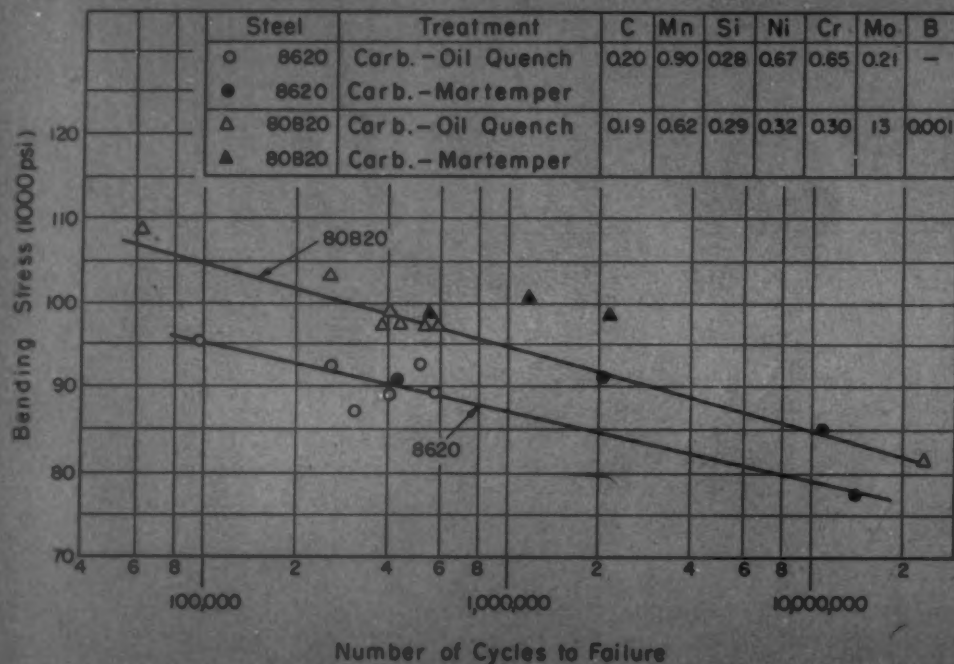

Fig. 7—Stress versus cycles to failure of 8620 and 80B20 10-pitch gears. Data, courtesy Widrig and Groves, Spicer Mfg. Co.
**Case-Hardening Steels:** Several automotive firms have been successful in making certain types of case-hardened gears with boron alloy steels. Fig. 7 shows the results of dynamometer tests on gears made of 80B20 as reported by Widrig and Groves of Spicer Mfg. Co. It will be noted that the boron steels gave as satisfactory performance as 8620. Others have reported considerable difficulty with distortion of the boron steels during the case-hardening process. This is probably due to the fact that boron has much more effect upon the hardenability of the core than it does upon the hardenability of the case. This condition is illustrated by Fig. 8.